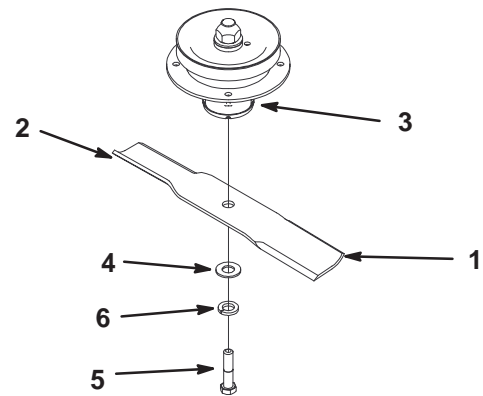
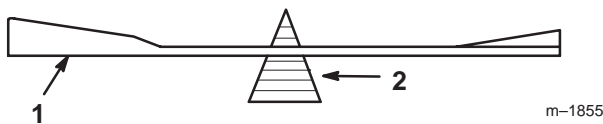

Figure 47
Figure 49
- Hold the blade end using a rag or thickly-padded glove. Remove the blade bolt, washer, lock washer and blade from the spindle shaft (Fig. 47).
2. Check the balance of the blade by putting it on a blade balancer (Fig. 49). If the blade stays in a horizontal position, the blade is balanced and can be used. If the blade is not balanced, file some metal off the end of the sail area only (Fig. 47). Repeat this procedure until the blade is balanced.
1. Install the blade onto the spindle shaft (Fig. 47).
Important The sail part of the blade must be pointing upward, toward the inside of the mower to ensure proper cutting (Fig. 47).
2. Install the flat washer, lock washer and blade bolt (Fig. 47). Torque the blade bolt to 85–110 ft-lb (115–140 N•m).